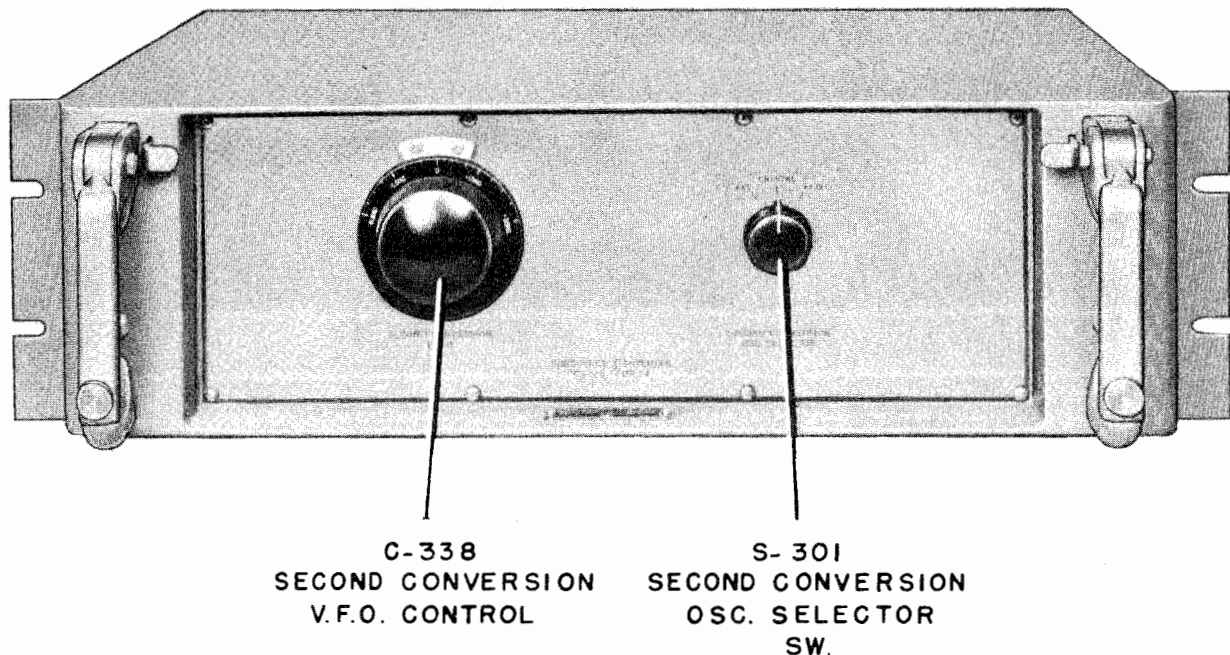

Figure 4-4. Frequency-Converter CV-126/FRR-24 (units 1F, 2F, 3F), Front Panel Component Identification
(5) PILOT DIMMER CONTROL.—This control provides a means of raising or lowering the brilliance of the pilot lamp.
(6) PROJECTION DIAL SWITCH.—This switch turns on the projection dial lamp to project the kilocycle frequency dial numerals onto the front-panel window.
(7) INDEX SET CONTROL.—The Index Set control adjusts the position of the projection dial hair-line indicator.
c. FREQUENCY-CONVERTER CV-126/FRR-24, UNITS 1F, 2F, 3F. (See Figure 4-4).—The Frequency Converter CV-126/FRR-24 converts the 1750-kc. intermediate frequency obtained from the Amplifier-Converter units preceding it to the 50-kc. intermediate frequency of the following Filter Assembly F-99/FRR-24 unit. The frequency changing function also provides a convenient point for vernier tuning or automatic frequency control tuning. The 1750-kilocycle I.F. input signal is converted to an output signal of 50 kilocycles through the use of a converter and 1700 kilocycle crystal oscillator or variable oscillator. The following two controls are used to operate this unit:
(1) SECOND CONVERSION OSCILLATOR SELECTOR SWITCH.—This switch selects the oscillator circuit to be placed into operation i.e., Crystal, VFO or External. In the Crystal position, the fixed frequency oscillator generates a 1700-kc. injection voltage for internal or external application. Similarly